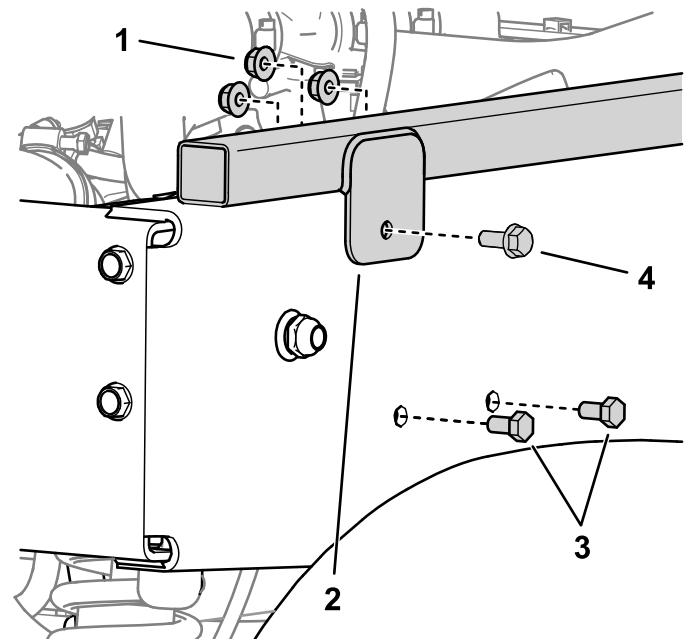

Figure 12
5. On the right side of the machine, detach the solenoid bracket and move it out of the path of the drill (Figure 12).
6. Drill a hole in the bed frame assembly using the mounting tab of the side bed spacer assemblies as a template and secure the frame assembly with a short bolt and a nut (Figure 12).